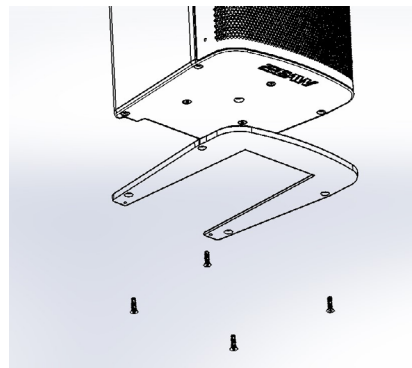

Figure 4 - Install Slide Plate
- Position Slide Plate over open holes, then use screws (B) to secure plate to the cabinet (Figure 4)